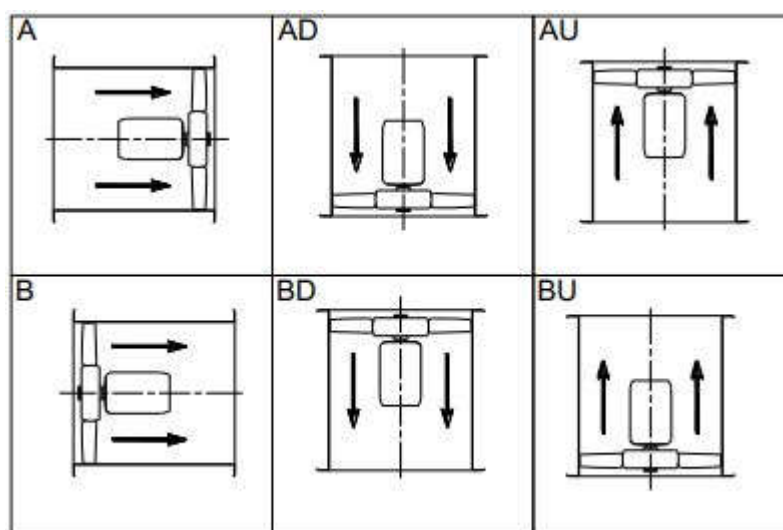

Fig. 2-2 Flow indications
- Flow: two directions for the fluid moved are identified for an axial fan, either from the motor towards the impeller (flow A) or from the impeller towards the motor (flow B), see Fig. 2-2;